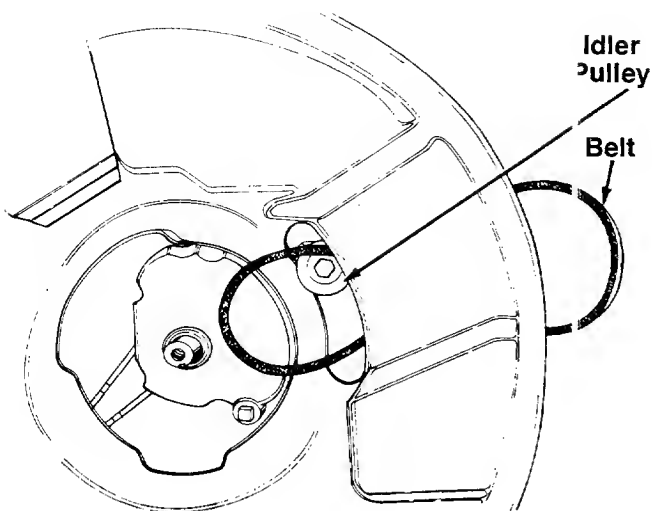

FIGURE 28.
- A. Push the idler pulley up out of the way as shown in figure 28.
- B. Slide the belt in from the rear of the deck and place it around the transmission pulley. See figure 28.